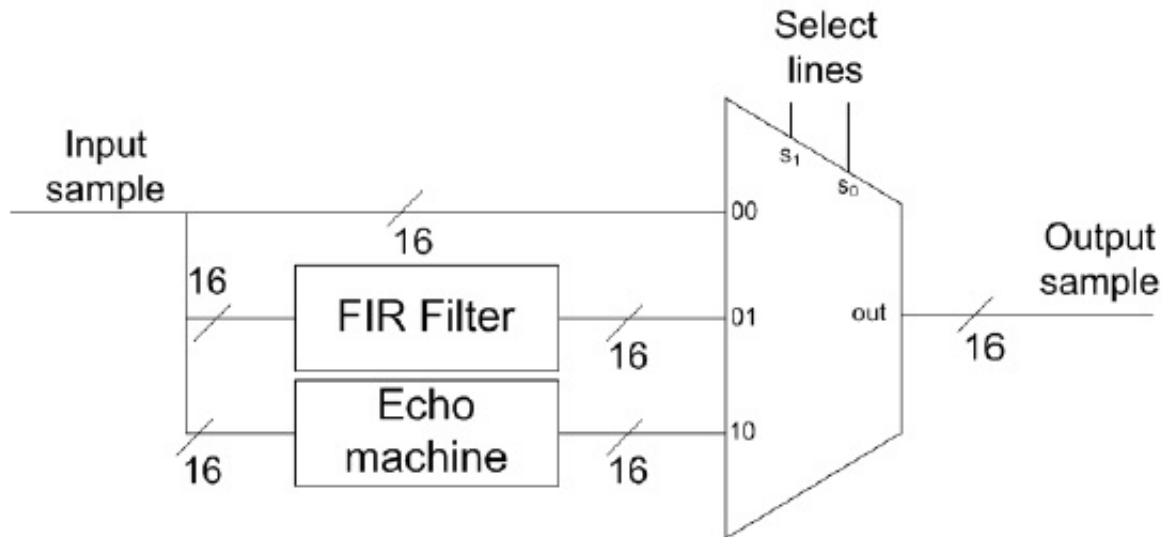

Figure 2: DSP Subsystem Block Diagram
When you open `dsp_subsystem.v` you will notice that the output is directly connected to the input, which means that samples are simply forwarded to the output, without any processing. If you compile this project and download it to the DE1-SoC board, you should be able to hear yourself when the microphone is selected, and hear whatever is on the line-in input when line-in is selected by switch SW[2]. To complete the lab, you are required to implement an FIR filter and an echo machine. You will also create a multiplexer which will allow you to select what data gets sent to the output, as shown in Figure 2. The multiplexer can select between the original (unprocessed) signal, the output of the FIR filter, or the output of the echo machine. The select lines will be connected to the switches SW[1] and SW[0] of the DE1-SoC board, so that you can control which signal is selected. Using a multiplexer in this fashion will help in debugging your circuit. For instance, if you can hear the sound coming from the FIR filter, but not the sound from
6. Instantiate your FIR filter and the echo machine inside the `dsp_subsystem.v` file and connect them to the multiplexer, as depicted in Figure 2.